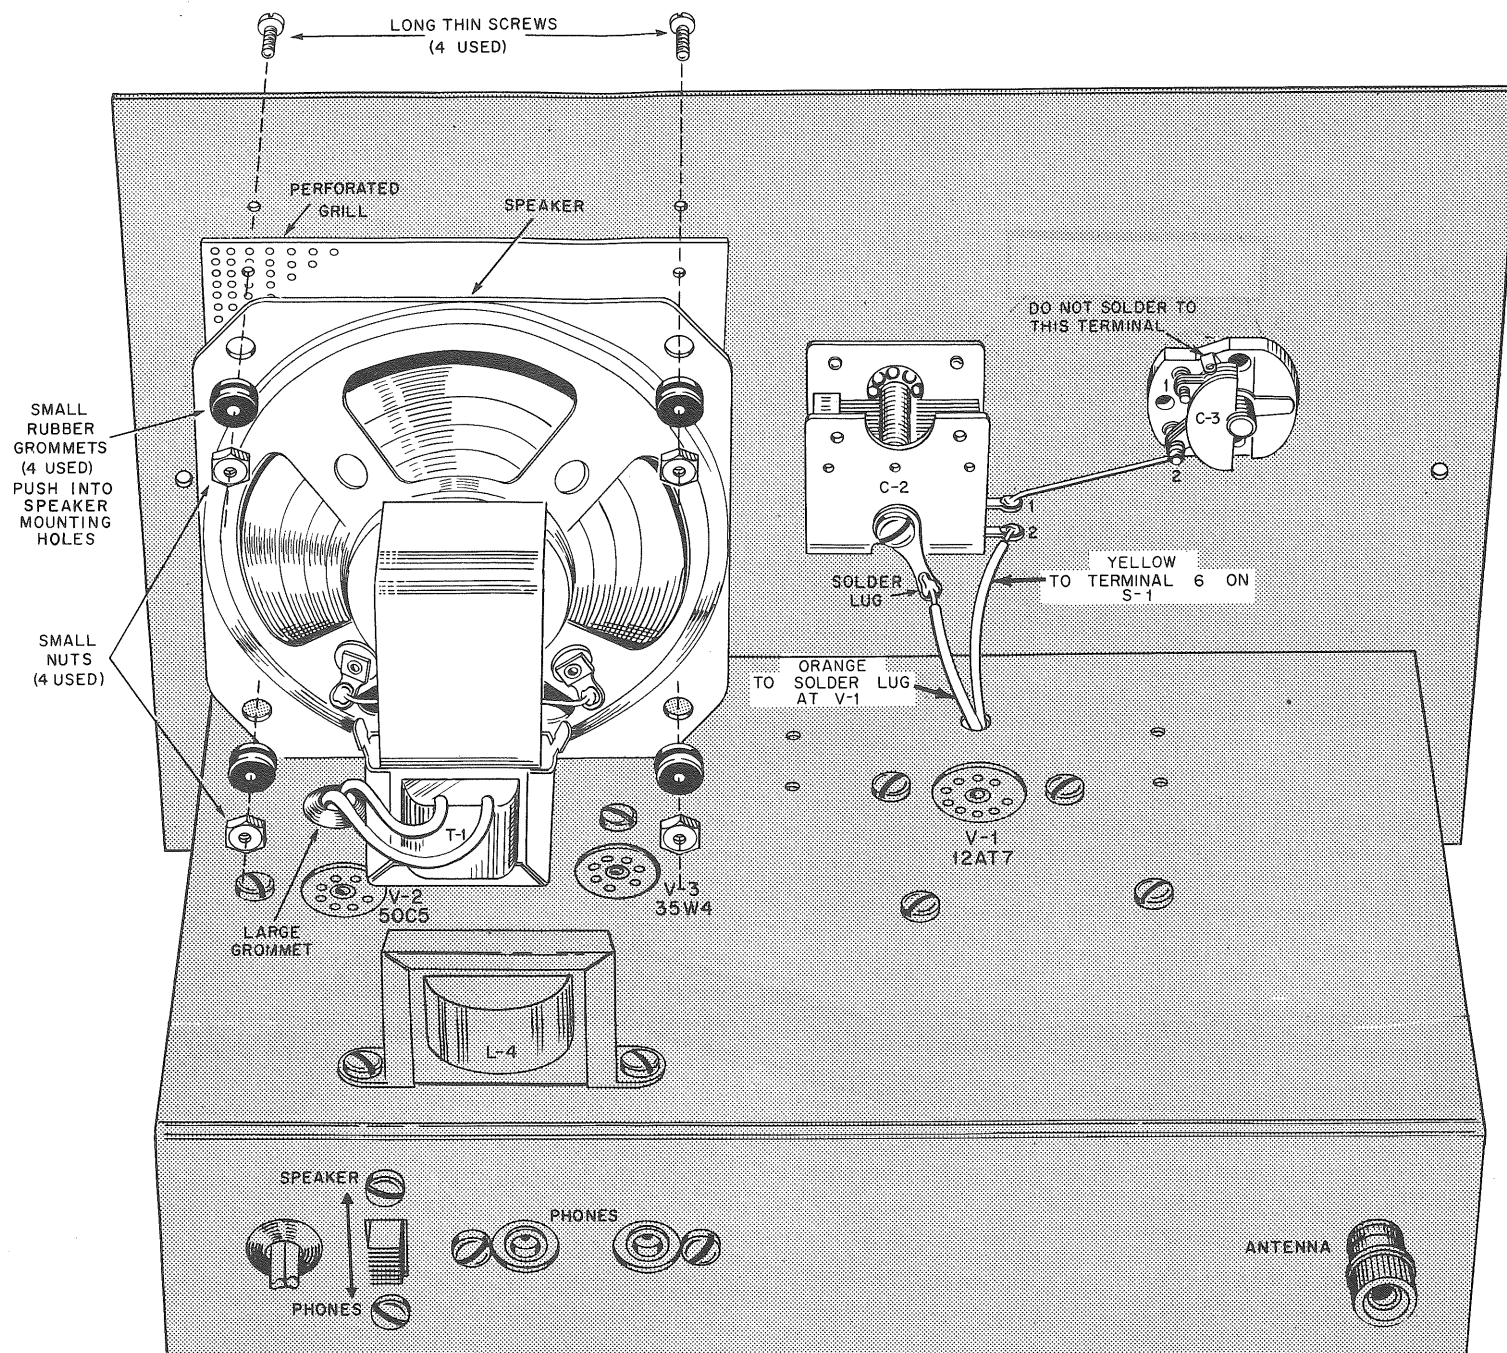

FIGURE 3. HOW TO MOUNT THE PARTS ON THE FRONT PANEL
- ☐ Next, mount the filter choke (L-4) on the OUTSIDE of the chassis using two medium length screws and nuts. The position of the filter choke is indicated by a broken (dashed) line in Figure 1. If you do not know what the filter choke looks like, see Figure 3 on page 5. After L-4 is mounted, push its two wires through the grommet between V-2 and V-3 so they can be connected inside the chassis.
SEE FIGURE 3.
- ☑ Turn the chassis over and position it as shown in Figure 3.
holes. Remove the square, perforated, gray fiber board, and the four long, thin screws, and the small nuts that fit them, from your supply of parts. Mount the perforated fiber board (labeled PERFORATED GRILL in Figure 3) and the speaker to the Front Panel. To do this, insert one of the screws through each of the 4 small holes at the corners of the square cutout, from the outside of the Front Panel. Next, from the inside of the Front Panel, place the perforated grill over the square cutout so that the threaded part of the screws extend through the large holes in the grill. Now, mount the speaker in such a manner that the screws extend through the rubber grommets in the corners of the speaker, and the output transformer on the speaker (labeled T-1 in Figure 3) is toward the chassis. Finally, secure the speaker and the grill to the Front Panel by tightening one of the small nuts onto each of the long, thin screws. Push the red and blue wires on the speaker through the large grommet below the speaker so they can be connected inside the chassis later.
- ☐ There are three small holes around the large hole labeled MAIN TUNING on the Front Panel. These are the holes through which three very short screws are inserted to mount the main tuning capacitor (labeled C-2 in Figure 3). Scrape the paint away from
- ☐ Mount a solder lug on the rear of C-2 with the other very short screw, as shown in Figure 3.
- ☐ Scrape the paint away from the rear of the hole labeled BAND-SPREAD. Mount the bandsread capacitor (labeled C-3 in Figure 3) behind the front panel so that its shaft extends through the hole. Mount C-3 with the nut supplied with it. Place the large flat metal washer on the threaded bushing outside the front panel, and tighten the large nut over it. When the bandsread capacitor is mounted, its two solder terminals should be toward C-2 as shown in the figure.